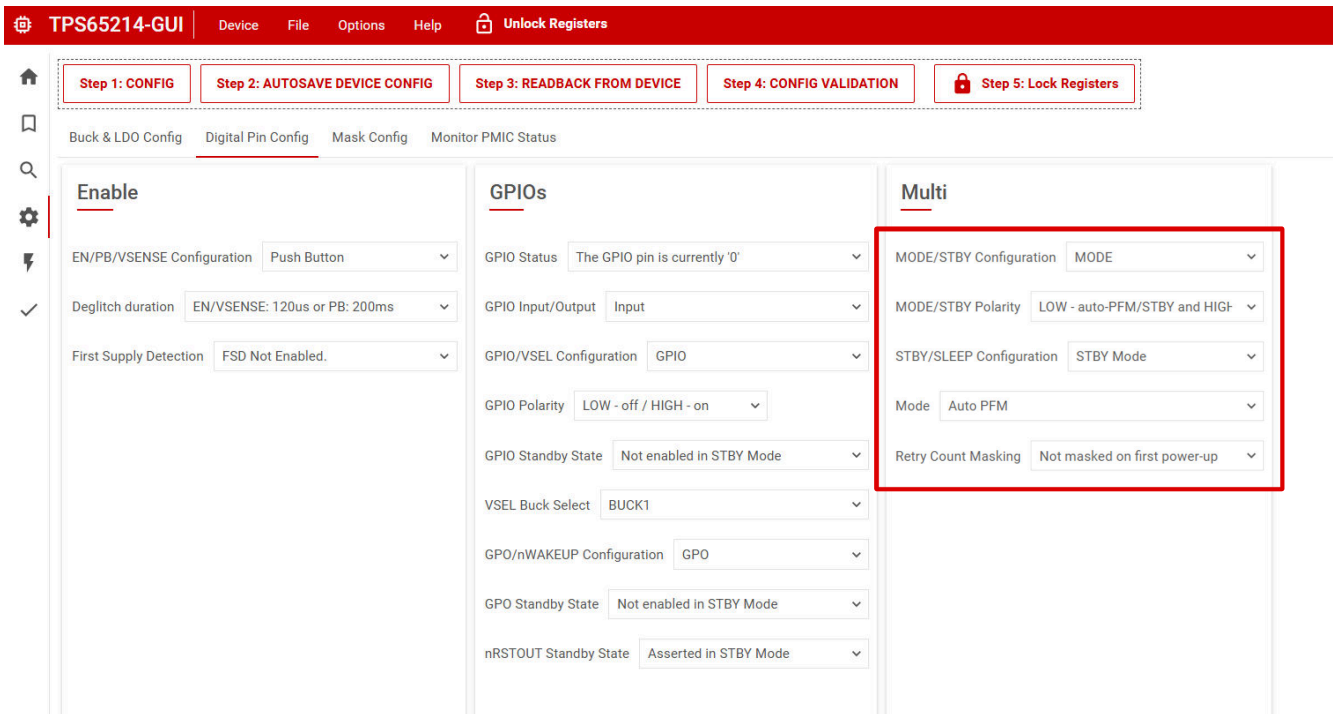

Figure 5-5. Multi-Function Configuration using the TPS65214-GUI
- Figure 5-5 shows the settings to be changed when using the configuration tab of the TPS65214-GUI
- Figure 5-5 show the register fields to be written when referring to the register map.